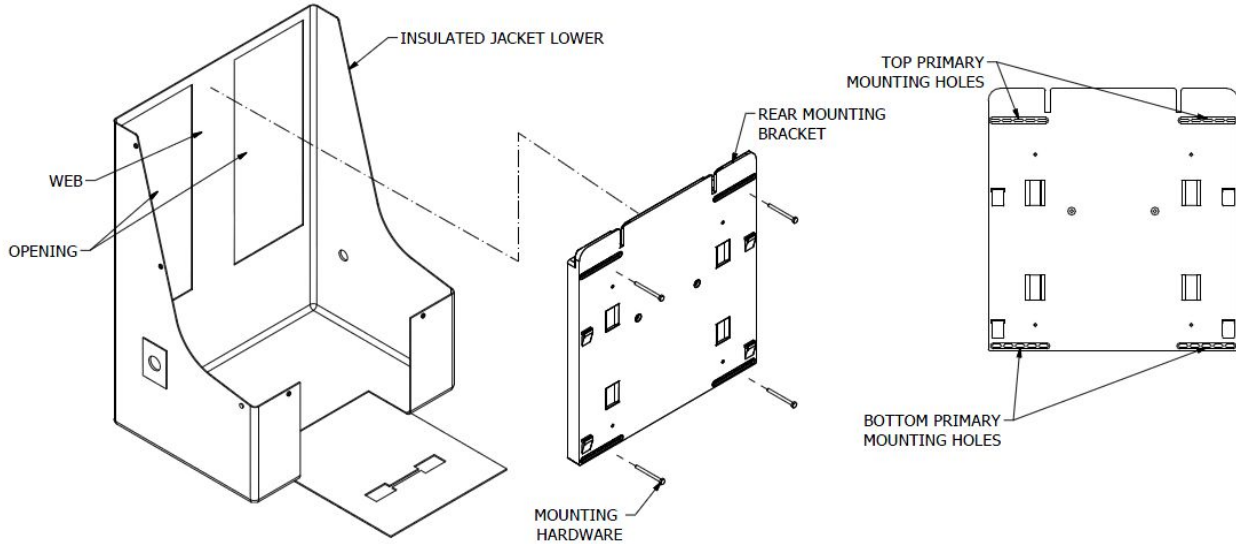

FIGURE 2
Step 1. Rear Mounting Bracket (Ref Figure 2)